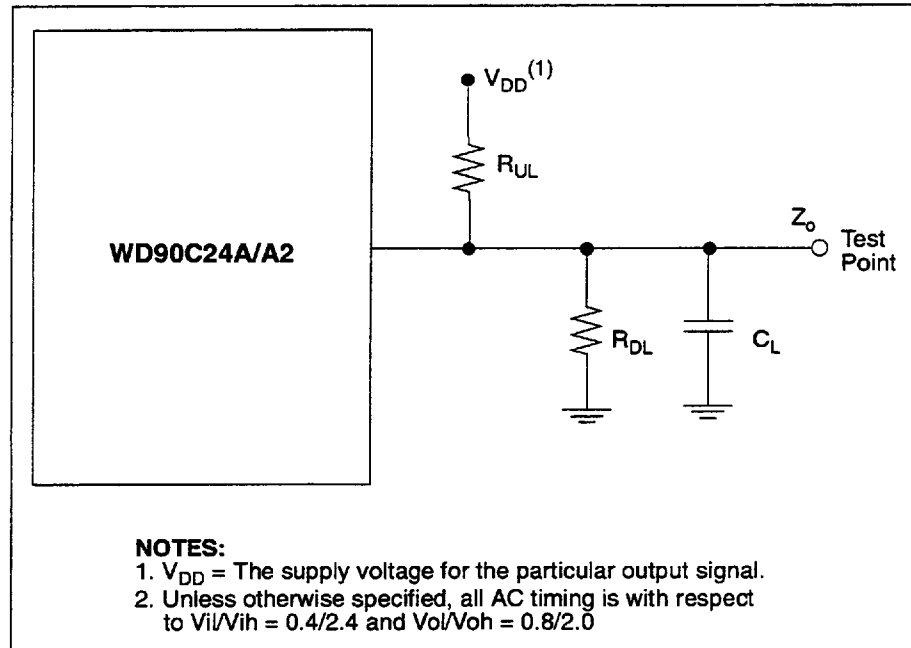

FIGURE 30-16. SETUP FOR TIMING PARAMETER MEASUREMENTS
Figure 30-16 shows the test setup for timing parameter measurements and Table 30-11 lists the timing parameter measurement information.
2. VDD = The supply voltage for the particular output signal. Figure 30-16 shows the setup for timing parameter measurements.